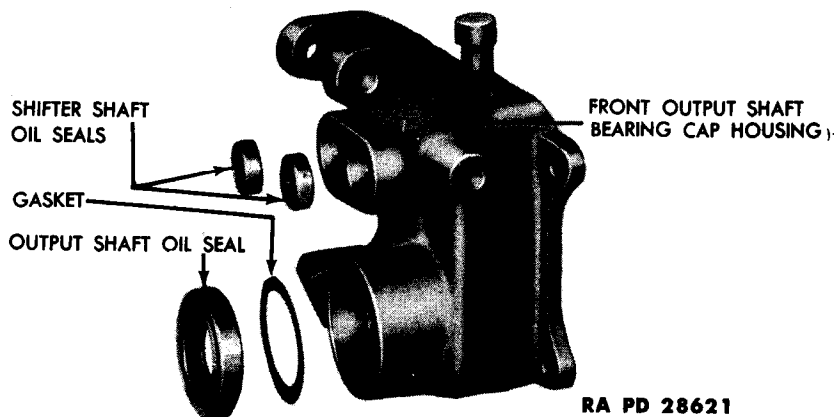

Figure 20 — Front Output Shaft Bearing Cap Housing and Oil Seals
(a) **Front Output Shaft Bearing Cap Housing** (fig. 20). Replace the front bearing cap, if it is cracked or damaged. Shifter shaft and output shaft oil seals must be replaced (subpar. c, below).
c. **Output Shaft Bearing Cap Oil Seal Replacement** (fig. 20). Drive the old oil seal out of the output shaft bearing cap housing, using a suitable driver. Drive the oil seals out, working from the inside of the cap housing. To install a new oil seal, use a driver the size of the oil seal and drive the new seal in the output shaft bearing cap housing.
b. Install Under Drive Shifter Fork (fig. 20). Place the under drive shifter fork in the transfer case housing. Insert the under drive shifter shaft in the transfer case and shifter fork. Install the shifter fork set screw that secures the fork to the shifter shaft. Secure the set screw with lock wire.